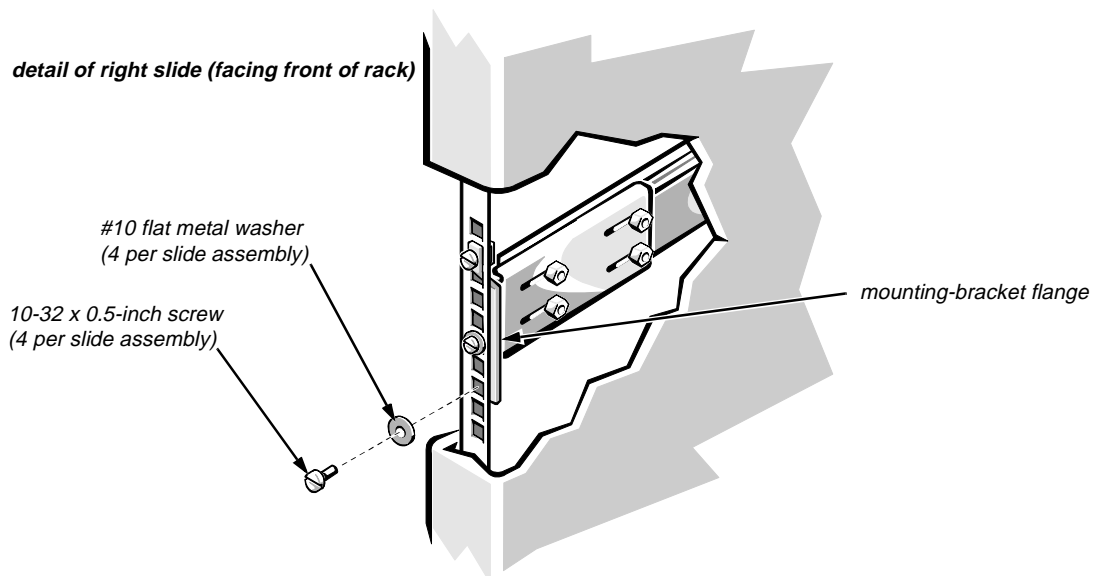

Figure 2-8. Installing the Slide Assemblies
- c. Adjust the slide assembly's length until the mounting-bracket flanges fit snugly against the back of the rails on both ends as shown in Figure 2-8.
Secure the mounting bracket on each end of the slide assembly with two 10-32 x 0.5-inch screws and two #10 flat metal washers per bracket as shown in Figure 2-8. Do not completely tighten the slide-assembly mounting screws until you install the storage system and verify that the width between slide assemblies is correct. Have another person grasp the interior and exterior slides and compress them while you tighten the mounting-bracket screws.